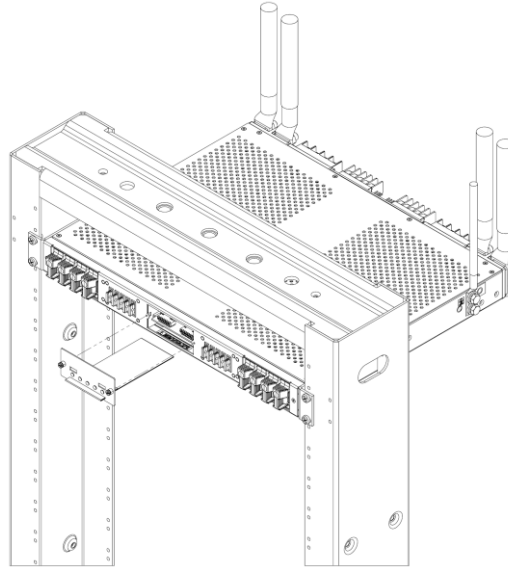

Fig. 2-8: Removing the Alarm Cover
19. Remove alarm cover using Phillips screwdriver, as shown in Fig. 2-8. Once the front cover has been taken off the panel, remove and discard the small pink packaging foam piece inside the front cover.